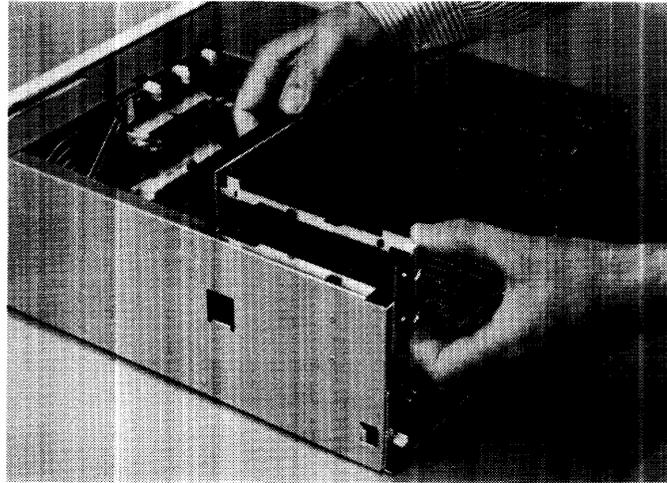

Figure 2-13. DIO Card Cage Bracket
2. Remove the screw holding the right side of the DIO card cage to the card cage bracket. Refer to Figure 2-13.